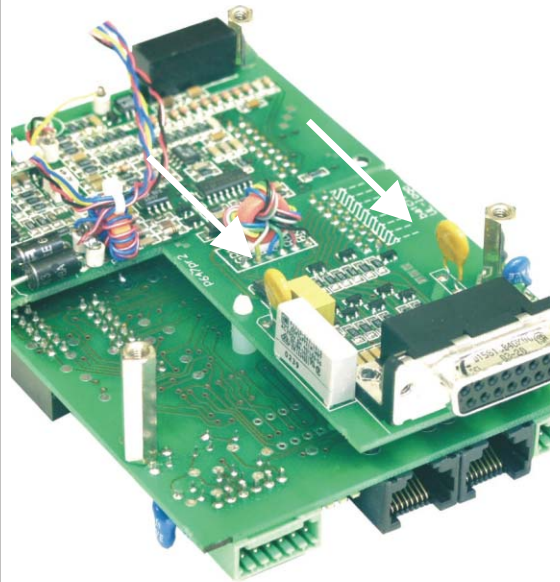

fig. 4 - 14
- Check fuse F27\_2 in series with Ø (pin 8 of CON E) (see fig. 4 - 14). To check the fuse measure the voltage between Ø and the minus output, a high voltage means too much current flowing through the fuse. F27\_2 = 650 mA, self resetting.